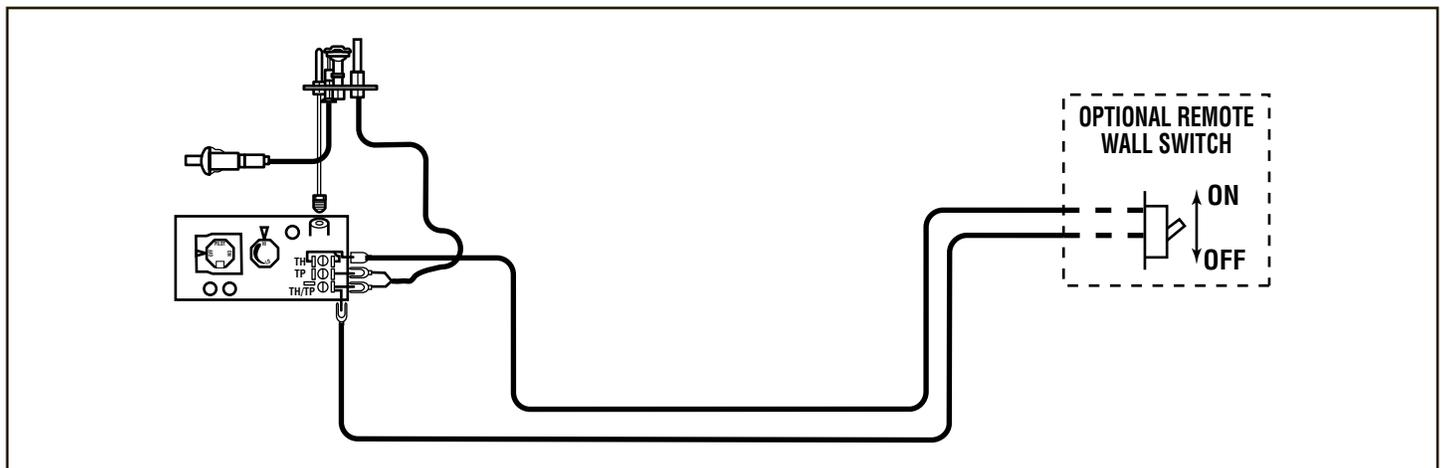

Figure 33 - Wiring Diagram for Wall Switch
A remote wall switch and up to fifteen (15) feet of 18 Ga. wire may be used with this appliance. Attach the wall switch in a junction box at the desired location on the wall. Figure 33. Do not extend beyond the wall switch wire length provided.